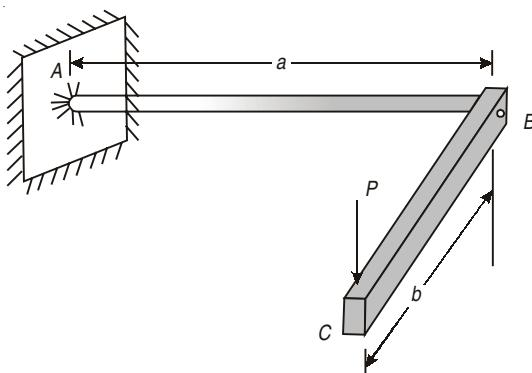

Fig. 6.10
- 6.41.** A circular steel rod AB of diameter d , length a , modulus of elasticity E and modulus of rigidity G , is loaded as shown in Fig. 6.10. Rigid bar BC of length